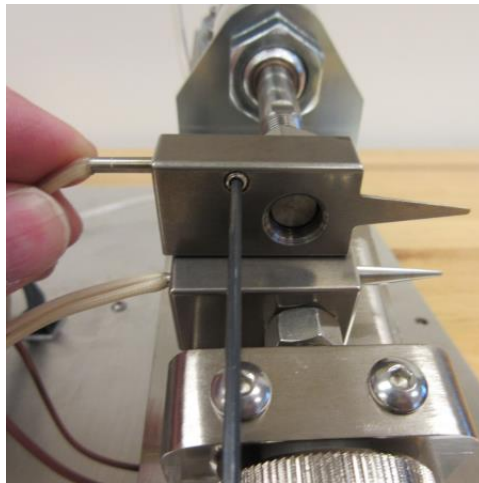

Figure 3.4.9
- Use a 2mm hex wrench to loosen the set screws in each jaw and then remove the heating element probes. **Figure 3.4.9 and 3.4.10** **Note:** The set screws may be located on either the inner or outer faces of the jaws.